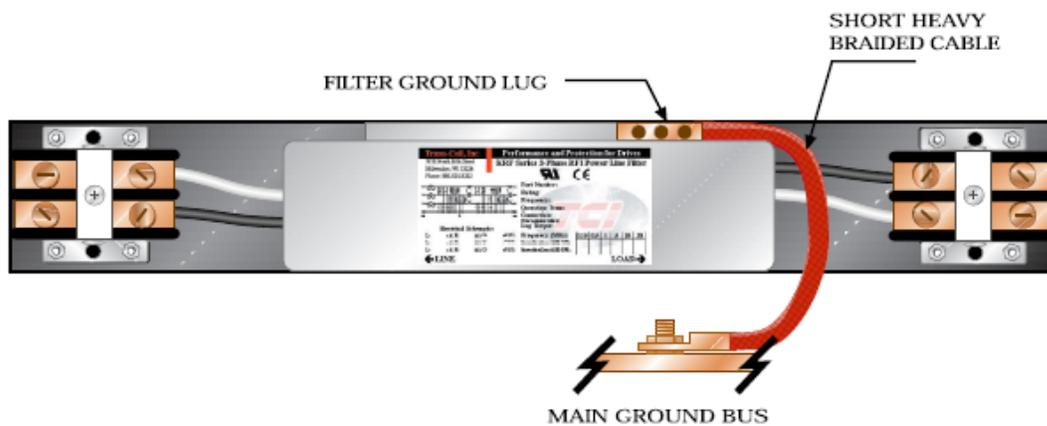

Figure 67 Grounding Diagram
2. Attach the AC line wires to the line reactor output terminals as shown in Figure 67.
2. Attach the ground lug to the main ground bus and tighten the nut (see Figure 67).